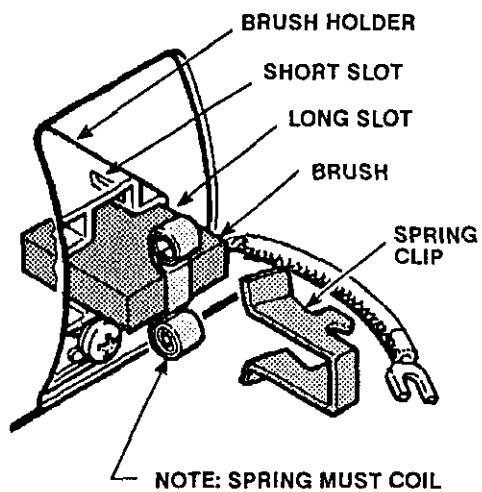

Fig 13-4
5. Install the new brush so its lead is in the long slot of the holder. Slide the terminal under the terminal screw washer. Make sure the motor lead is still connected to the screw. Tighten the screw. See Fig 13-4.
6. Place the spring on the brush as shown in Fig 13-4.
7. Push in and hook the spring clip. See Fig 13-4.